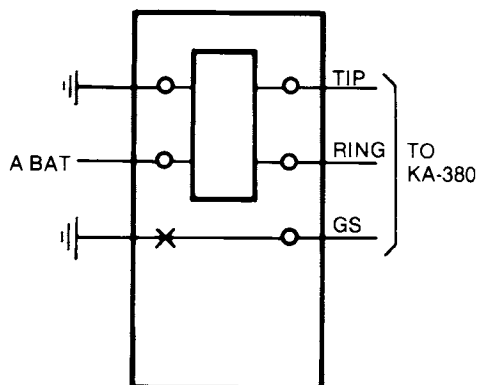

Fig. 3 — Connections of Apparatus to Access KA-380 (without Audible Supply).
3.03 Connect TIP, RING, PC (locking ground), and R1 through R5 from the KA-384 to the intercom. Figures 3, 4 and 5 show connections for various intercom installations. The selected R() leads determine the access number for each of the four areas and for all-area page. If desired, two
↳ area. See Figure 3.